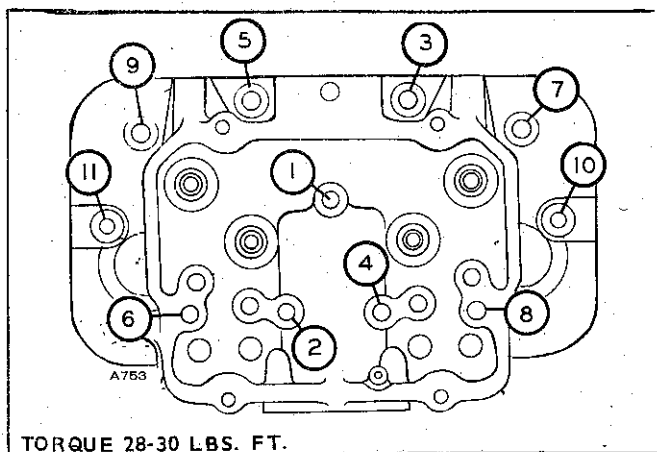

FIGURE 60. HEAD BOLT TIGHTENING SEQUENCE
3. Check the cylinder head-bolt torque. (See Fig. 60).
7. Tighten the head bolts to 28 to 30 lbs. ft. following the sequence in Fig. 60.
- c. Tighten the cylinder head capscrews following the sequence in Fig. 60.